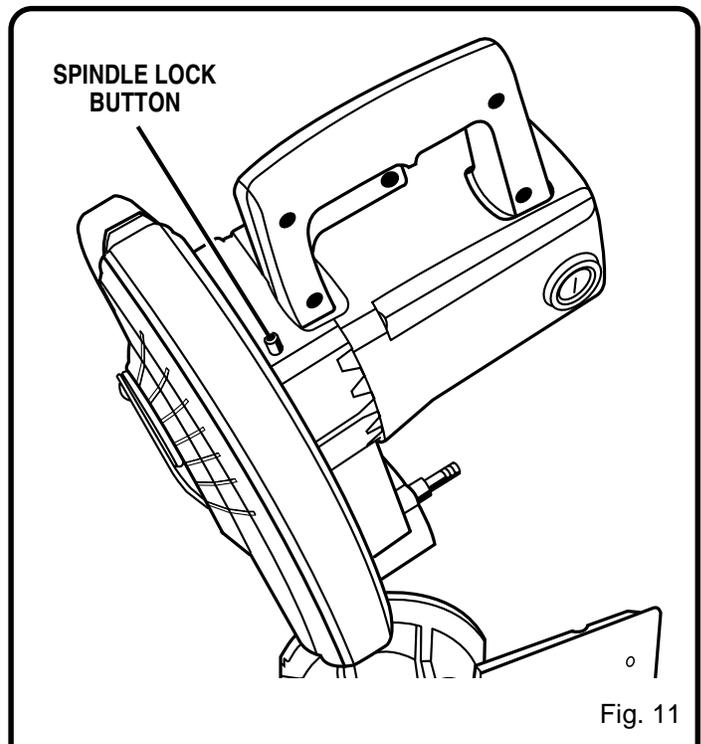

Fig. 11
See Figures 11 and 12.
- Using the wrench provided, loosen and remove the blade bolt. See figure 11.